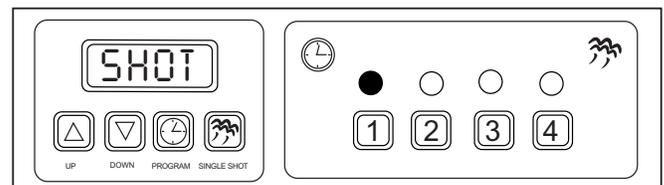

Figure 6. SHOT Mode on Menu 1
**SHOT (Steam Shot Time)** is used to adjust the water volume used during each solenoid operation (shot of steam) (Figure 6).
9. Press the **PROGRAM** button again and SHOT will appear in the display for a moment (Figure 6).
11. Press the selected channel button to store the changes (Figure 6) or press another channel button to store the changes and select a new channel.